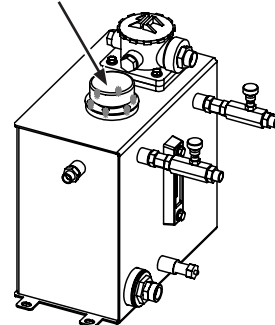

Fig. 12
6. If the oil level is low, or if there is no oil, unscrew the cap on the hydraulic tank (Fig. 12)